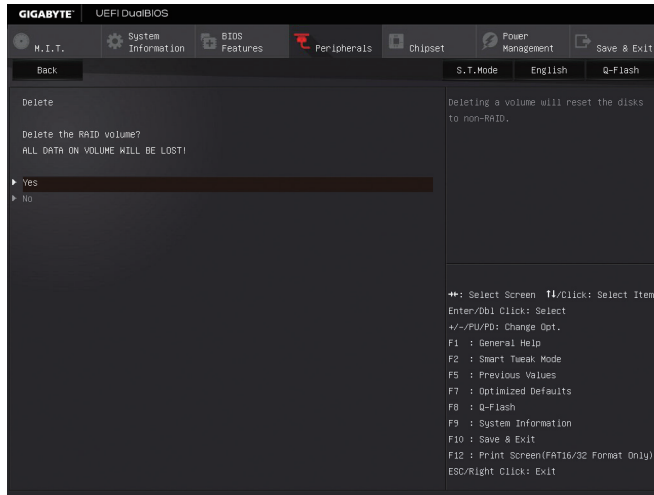

Figure 8
To delete a RAID array, press <Enter> on the volume to be deleted on the **Intel(R) Rapid Storage Technology** screen. After entering the **RAID VOLUME INFO** screen, press <Enter> on **Delete** to enter the Delete screen. Press <Enter> on **Yes** (Figure 8).